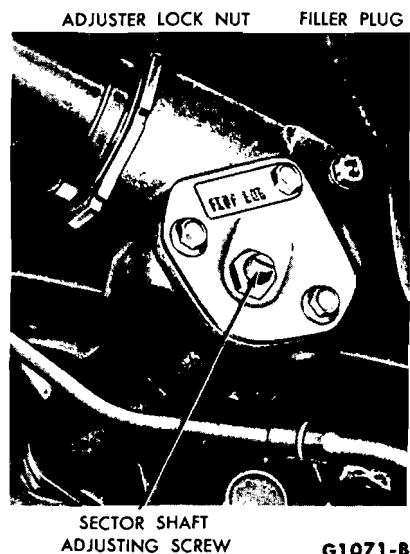

FIG. 4—Steering Gear Adjustments—Typical
6. Loosen the nut which locks the sector adjusting screw (Fig. 4), and turn the adjusting screw counterclockwise.
8. Loosen the steering shaft bearing adjuster lock nut, and tighten or back off the bearing adjuster (Fig. 4) to bring the preload within the specified limits.